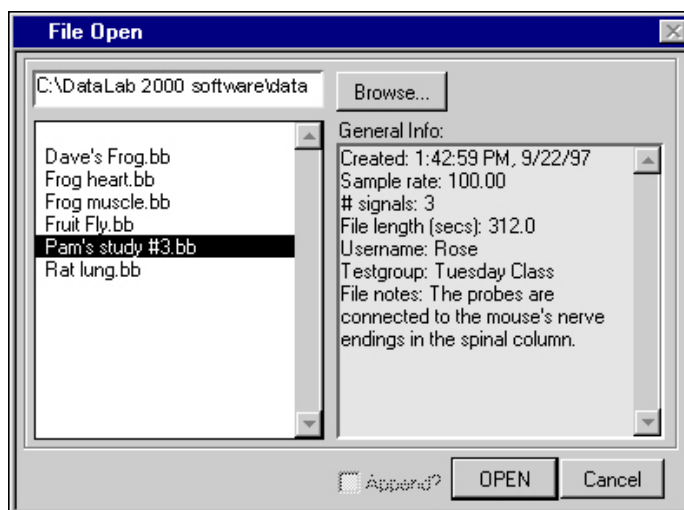

Figure 4-1. File Open Dialog Box
If you want to analyze a data file you have collected previously, you can open the file by selecting **File»Open** and then choosing the file from the File Open dialog box, shown in Figure 4-1.
- **Open Files**—If you want to select a signal from a new data file, click on this button to open the file. This button opens the File Open dialog box shown in Figure 4-1.